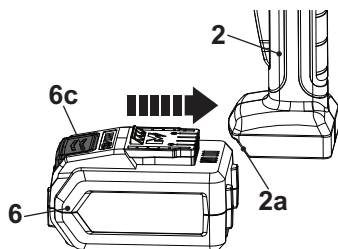

Fig. 6
1. Align the groove on the battery pack (6) with the corresponding ribs in the receptacle (2a) of the spray gun (2).
2. Insert the battery pack (6) until it is securely locked in position (Fig. 6).